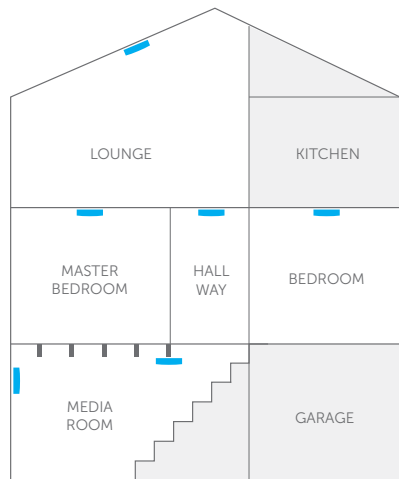

Figure 1
- Refer to Figures 1 - 5 for recommended locations.